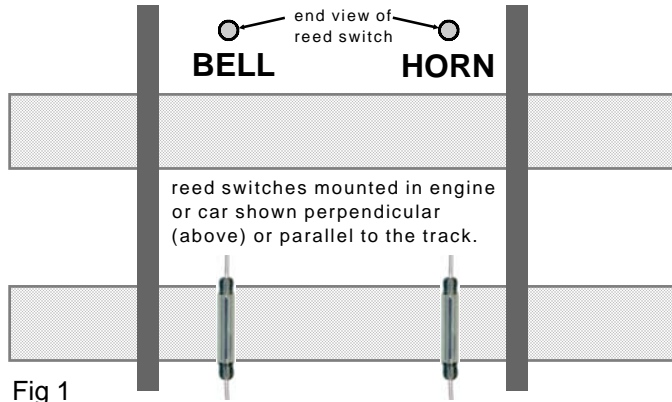
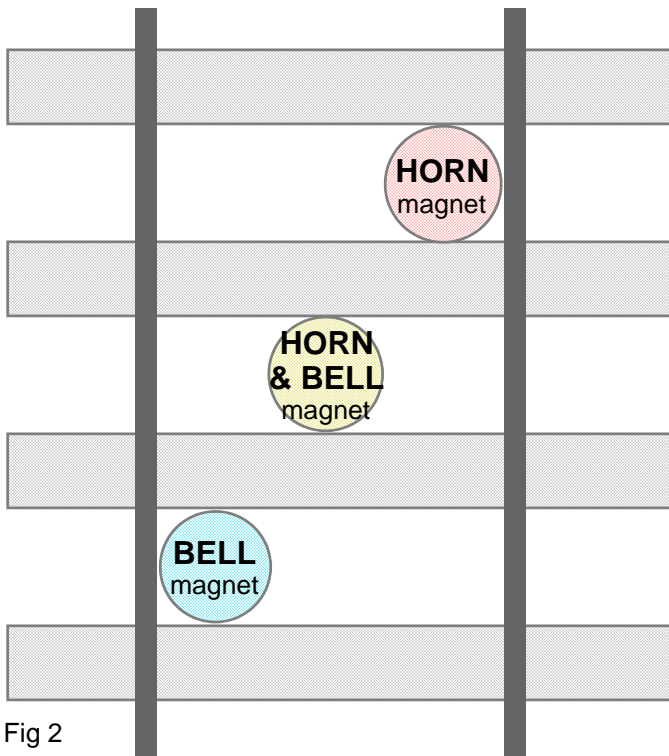

Fig 1
Fig 2
1 - Perpendicular to plane of track: The easiest to mount in most cases would be to mount the reed switch perpendicular to the track plane. By doing so, you minimize the sensitive area of the reed switch and make it more selective for what the magnet is going to operate. As can be seen in the top section of fig1 on this page. The magnets are strategically located to trigger each function. By proper locating the magnets, individual functions can be controlled (fig2).
Method 1: Mount the reed switches 90° from that shown in the lower portion of fig1. Position the magnets over the end area of the reed switches as shown in fig 2. This way other rectangular magnets can be used as well. If you do not want this system to be triggered by certain rectangular magnets but do want it to activate with item 988 magnets, then orient the reed switch as shown in fig 1 and place the magnets directly under the reed switch. This way you could make the engine more specific as to which magnets will trigger the sound system. Fig 3 shows activation with a rectangular magnet.
Don't forget, you do need two triggers for the bell. One to trigger the bell "on" and another further down the track, to trigger the bell "off". As shown in fig 2, you could trigger the Horn and Bell with one magnet, item 988, properly placed.